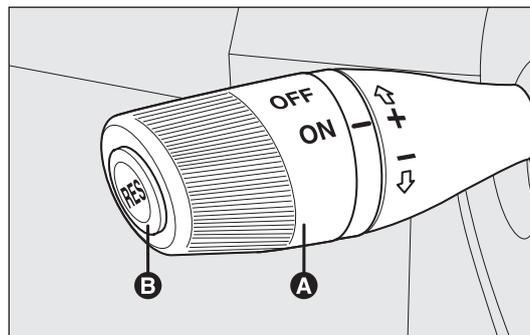

fig. 45
Turn twist switch A-fig. 45 to ON.
- turn twist switch A-fig. 45 to ON and press the accelerator pedal until you reach the required speed;
- press button RES B-fig. 45.
- pressing the accelerator pedal; in this case, the system is not really switched off but the request for acceleration takes priority. The cruise control is, however, active and you do not need to press button RES B-fig. 45 to restore the previous conditions when you have finished accelerating.